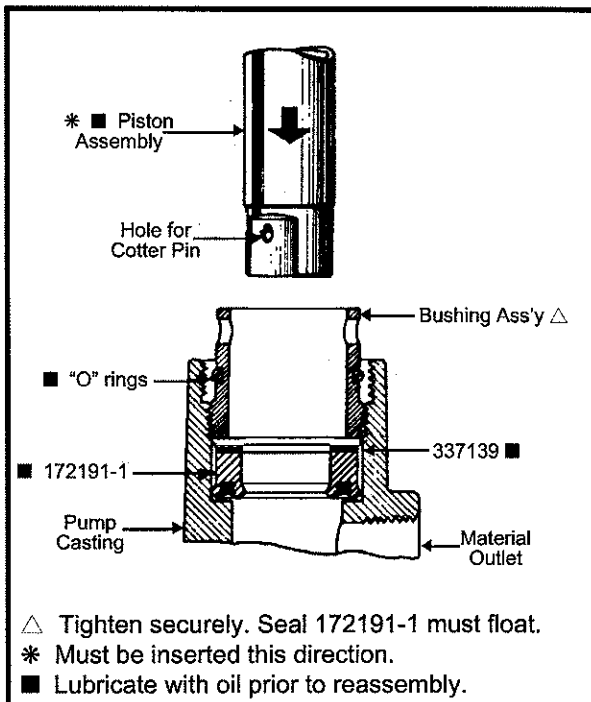

Figure 2: Viton Seal 172191-1 Properly Seated
3. Remove the bushing assembly to expose the old packings (Figure 2).
3. Install the Backup Washer 337139 as shown in Figure 2.